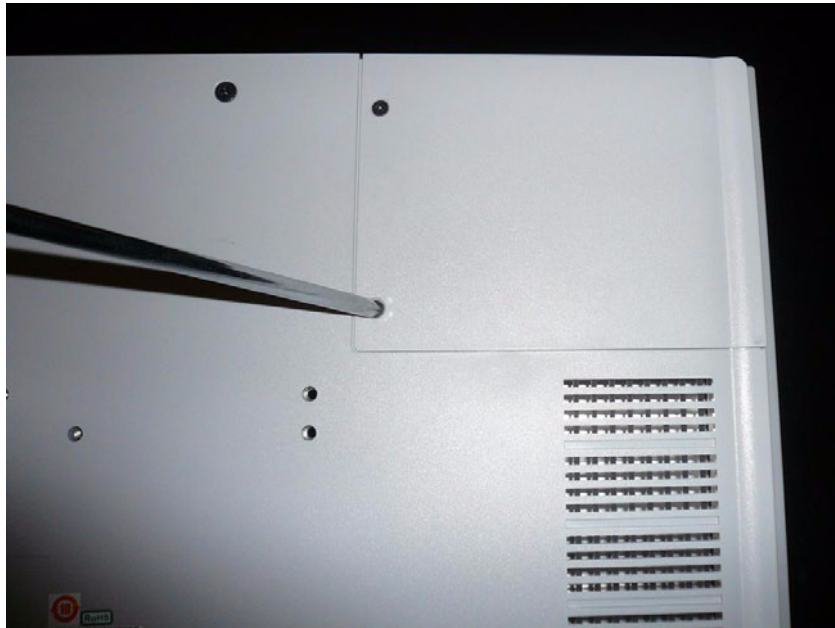

Figure 4.4 The PPC Side Cover
1. Remove the two screws on side cover first. (See Figure 4.4)